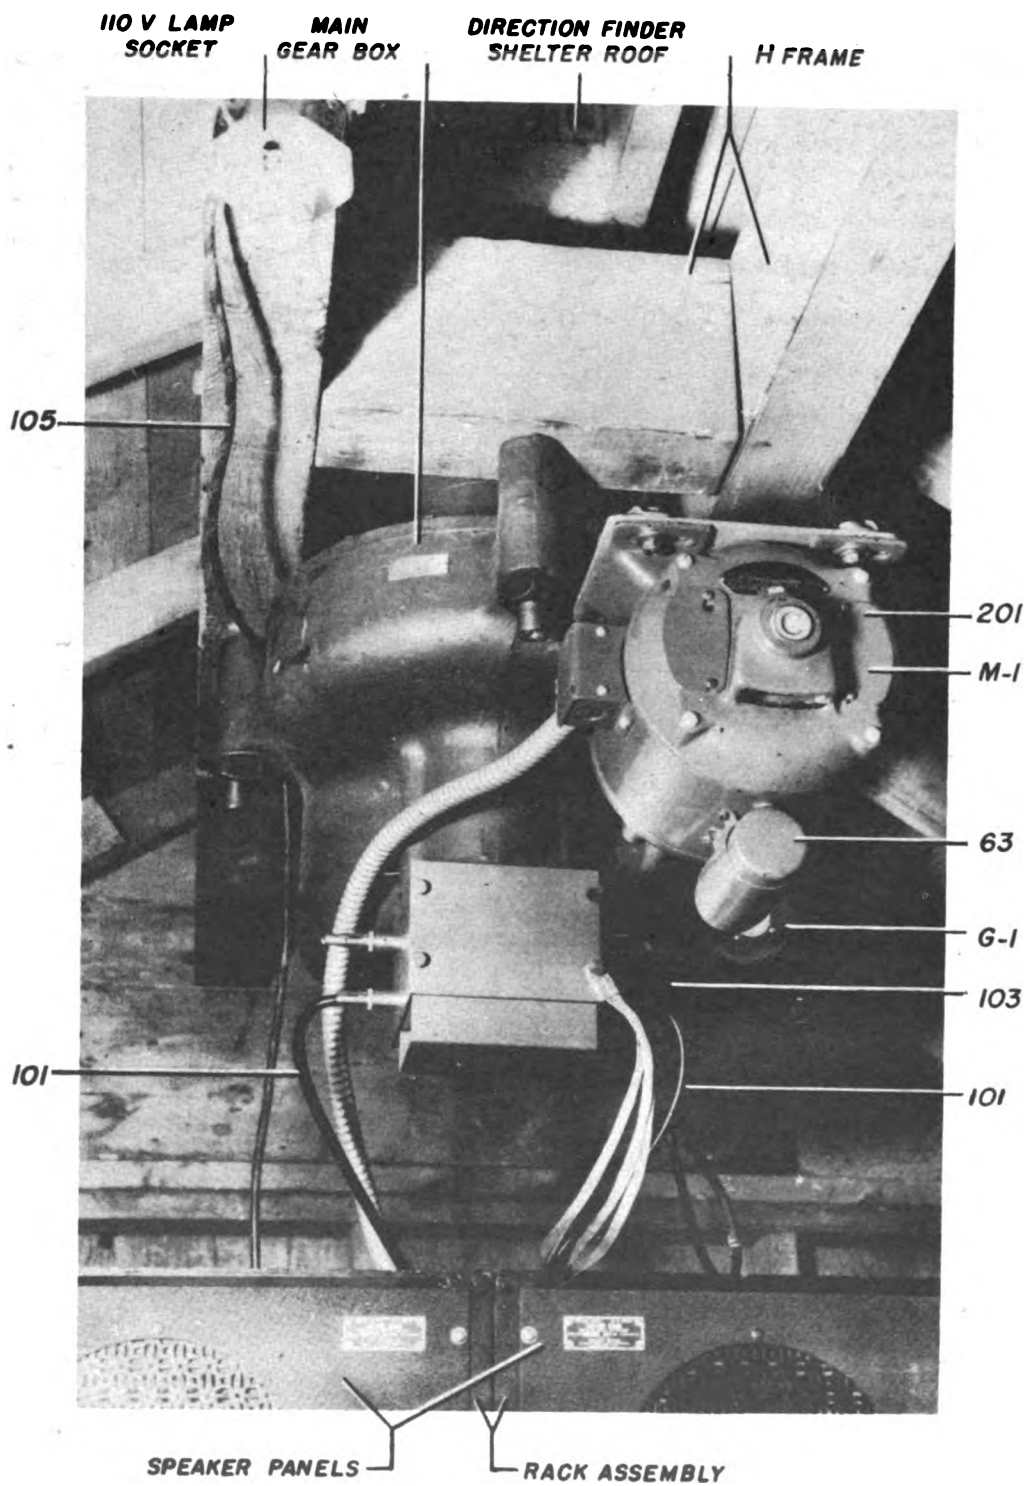

Figure 3—Gear Box Assembly
c. *Gear Box.* The gear box assembly, figure 3, consists of a large cast iron housing containing a series of gears for reducing the speed of the main antenna